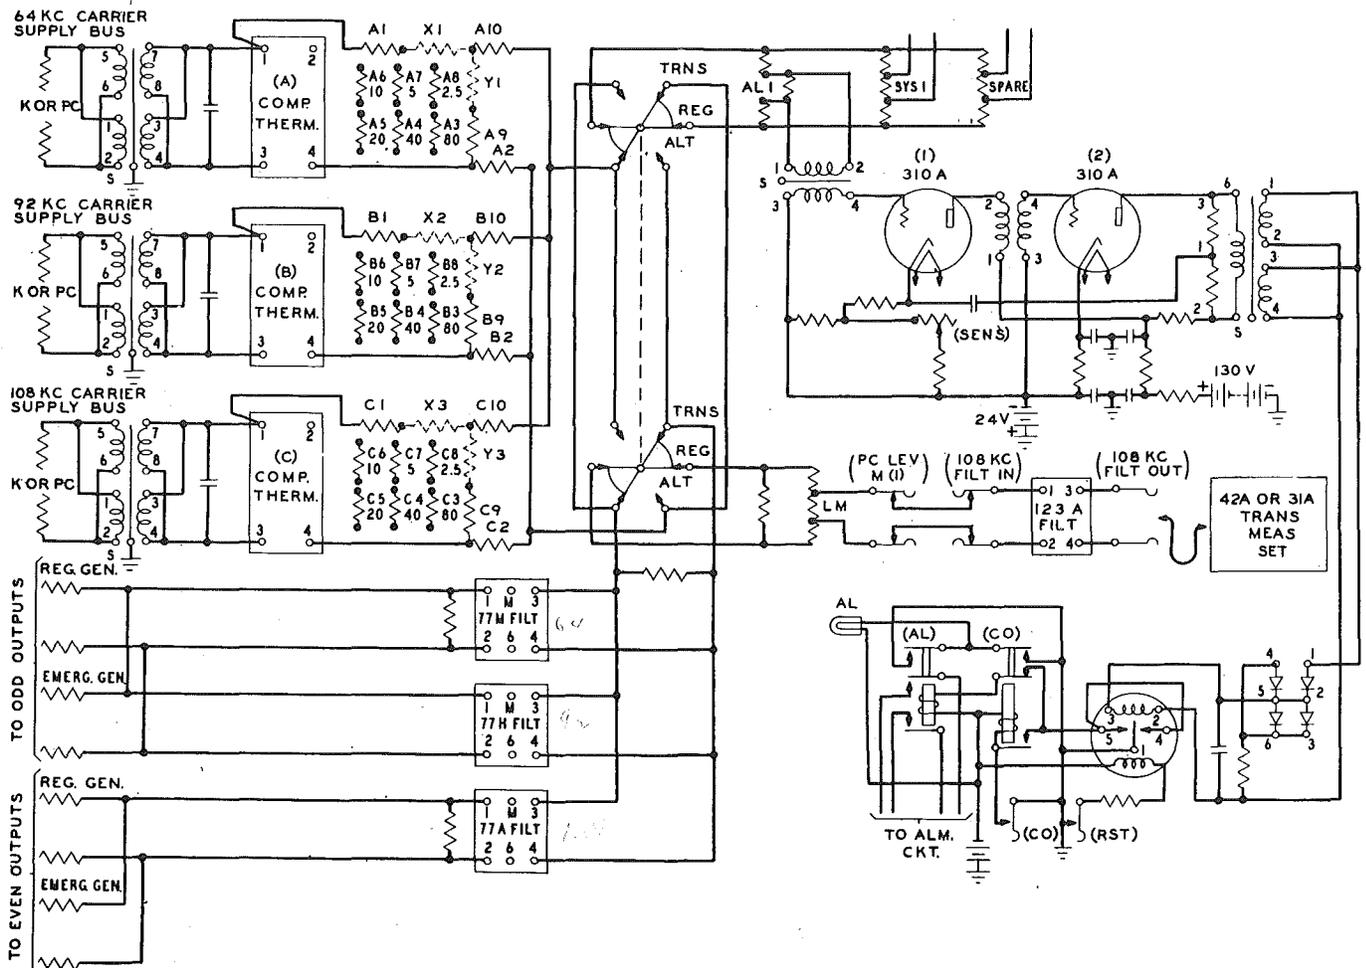

Fig. 14 - 108, 92 and 64-Kc Pilot Level Measurement
3.51 Procedure - Regular Stabilized Pilot Level Adjustment - See Fig. 14:
3.52 Procedure - Alternate Pilot Level Measurement - See Fig. 14:
3.54 Procedure - See Fig. 14: